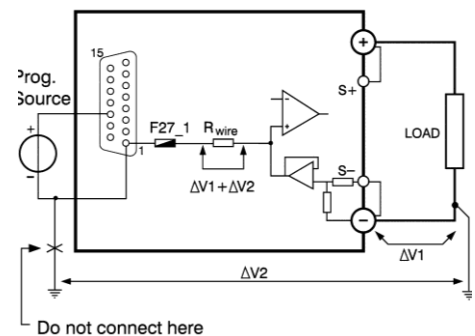

fig 6 - 1
- Please check why current is flowing through pin 1 (see also next paragraph and fig. 6 - 1).
- Fig. 6 - 1 shows a typical earthing problem. In case the load has a connection to earth and the programming source as well, problems could occur. Improper choice of the earthing point of the load can give a voltage drop of  $\Delta V1$ .